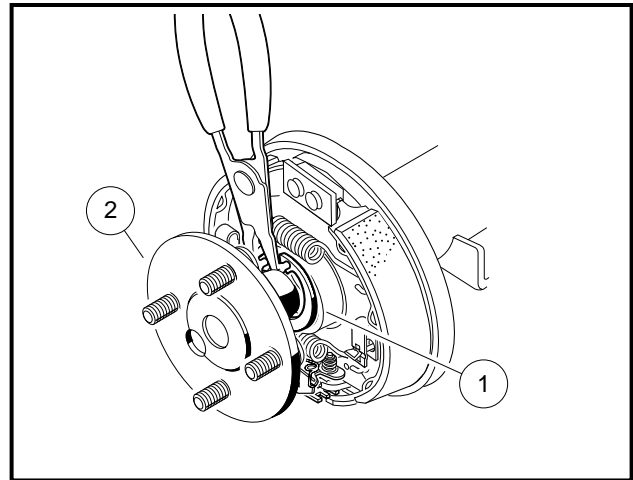

Figure 6-3 Remove Axle Retaining Ring
- 5.1. Using 90° snap ring pliers (Club Car Part No. 1012560), remove axle retaining ring (1) (**Figure 6-3, Page 6-3**).
- 5.2. Pull the axle shaft (2) from the axle tube (**Figure 6-3, Page 6-3**).
7. Install axle shaft (2) into axle tube and install retaining ring (1) (**Figure 6-3, Page 6-3**). See following **WARNING** and **CAUTION**.